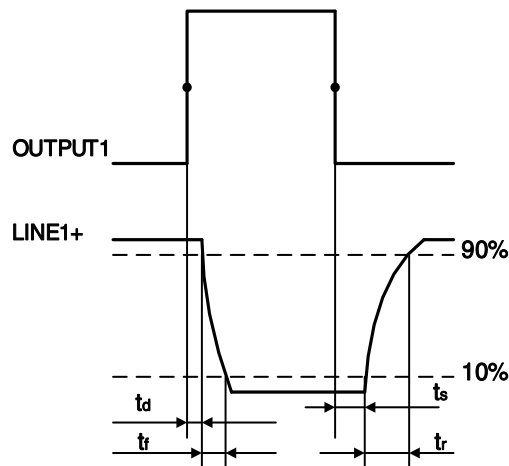

Figure 7-10 Parameter of opto-isolated output circuit
- Rising time delay = tr+td: <50μs (0°C~45°C) (parameter description is shown in Figure 7-10)
- Falling time delay = ts+tf: <50μs (0°C~45°C) (parameter description is shown in Figure 7-10)